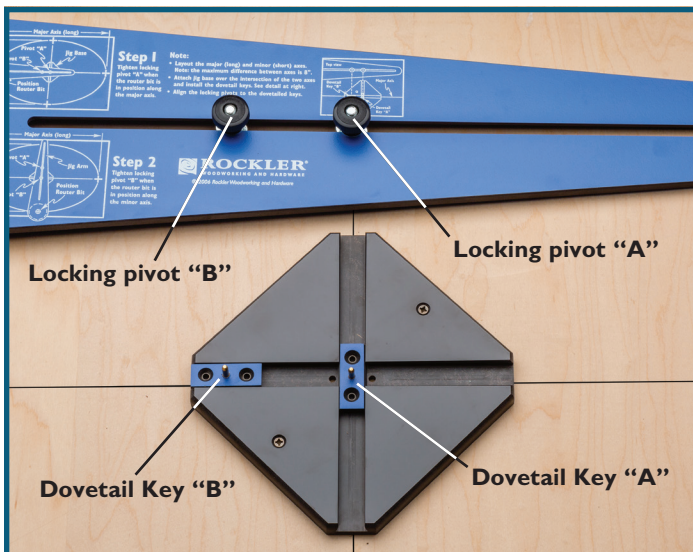

Fig. 3
4. Loosen the two Locking Pivots on the Jig Arm (1) and position them so they mount on the pins in the Dovetailed Keys (3). **Fig. 3.**